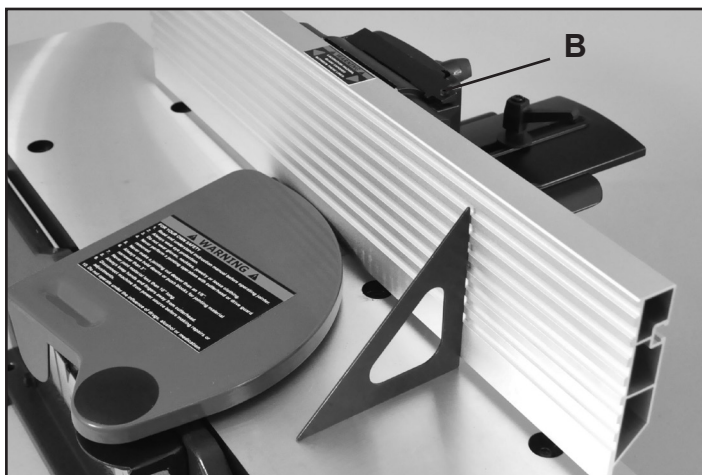

FIG. 6
6. Use an Angle Gauge to measure the 90° & 135° angles between the Fence and Jointer Table Top. Adjusting can be done by loosening / tightening the Nylock Hex Socket Head Screws (B). FIG. 6 & 7.